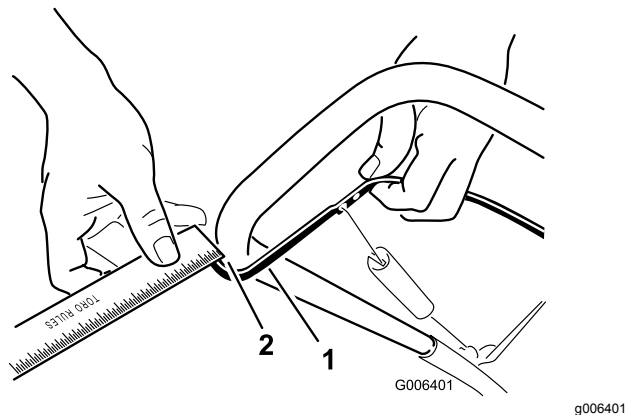

Figure 18
Move the control bar back toward the handle to remove the slack in the control cable (Figure 18).
Note: Ensure that a 2 to 3 mm (1/16 to 1/8 inch) gap exists between the control bar and the handle (Figure 18).
2. Move the Z-fitting to a higher or lower hole on the adjuster link as needed to obtain the 2 to 3 mm (1/16 to 1/8 inch) gap between the control bar and the handle (Figure 18).